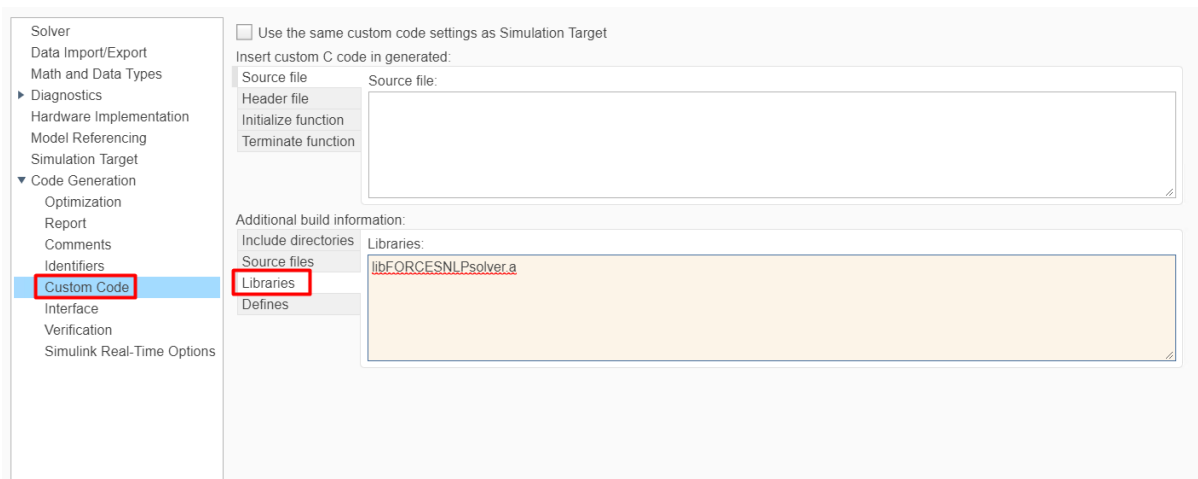

Figure 13.98: Add the libraries used for the code generation.
12. (Figure 13.98) In the “Code Generation/Custom Code” tab, add the library file: